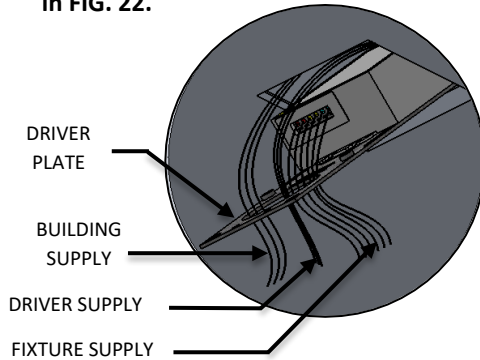

FIG. 21- DETAIL SHOWING BUILDING SUPPLY AND DRIVER WIRE
17. Slide DRIVER PLATE into the box with the DRIVER facing up. as you slide the plate in, make sure you pull the BUILDING SUPPLY connections through the large hole in the DRIVER PLATE as shown below in FIG. 21 and other wires will already be through the center hole.